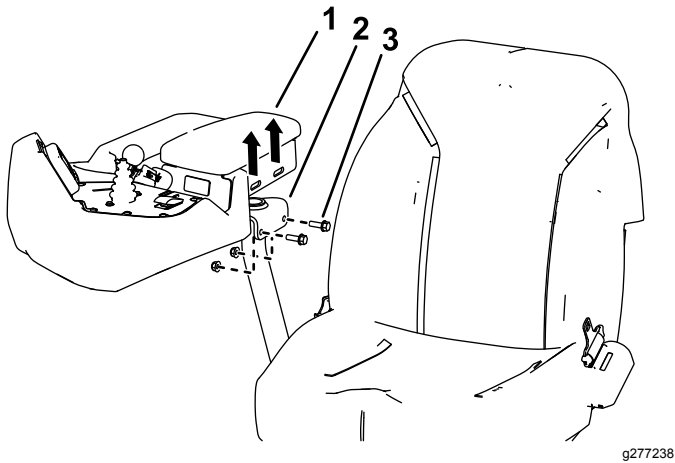

Figure 2
- Remove the 2 flange bolts and nuts securing the armrest to the seat (Figure 2). Save the fasteners.